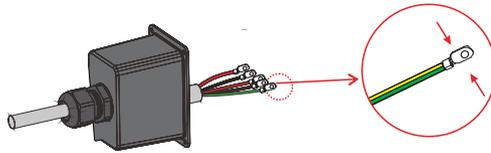

Figure 4.3-5 Install ac connection terminals
**Step 3.** Install the AC connection terminal on the cable. See Figure 4.3-5.